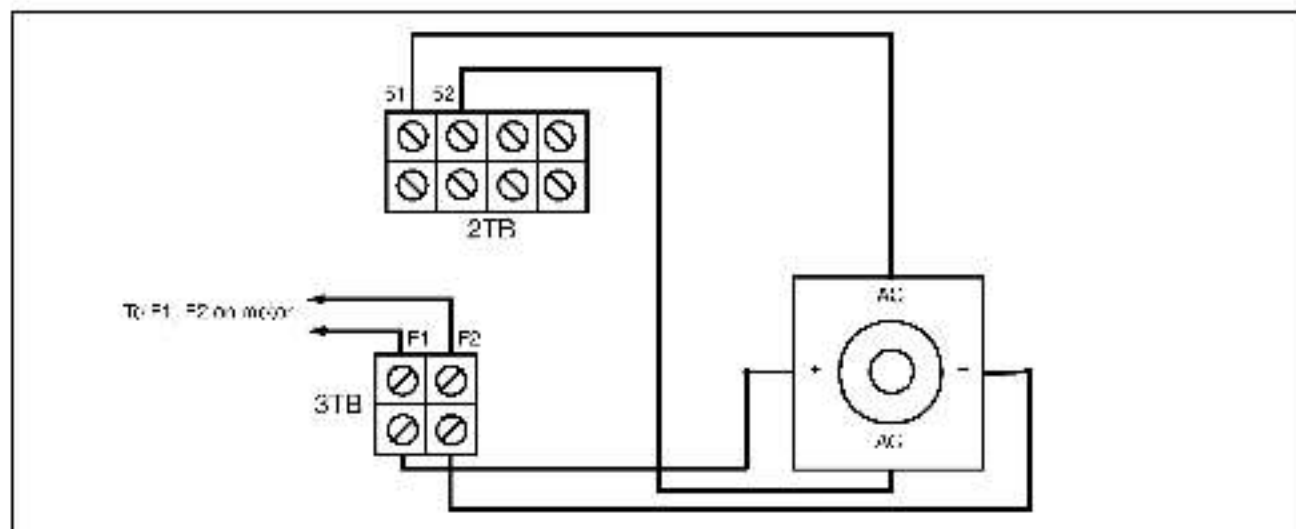

Figure 1 Connecting the Field Supply (Full wave)
- Step 6. **For a full-wave supply**, connect the motor field wires to terminals F1 and F2 on Field Supply terminal block 3TB. See figure 1.